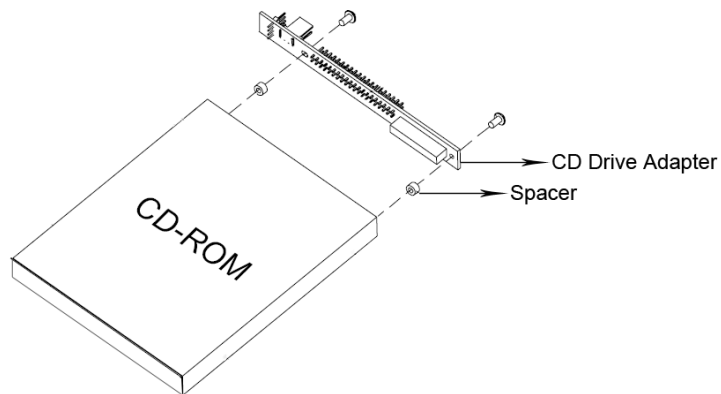

Figure 3-5: CD Drive Adapter Installation
- Step 3:** Insert two retention screws and secure the adapter to the CD drive (**Figure 3-5**).